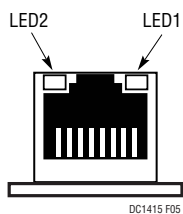

Figure 5. DC1415 LEDs
4. Verify LED2 is lit, indicating the PSE has successfully detected and powered the PD. LED1 will also be lit if the PSE performed 2-event classification. See Figure 5.
There are two LEDs on the front of J1 as shown in Figure 5. In a typical PD application a PHY chip would drive these LEDs to indicate the status of the Ethernet link or traffic activity; however, on the DC1415A board the LTC4265 drives the LEDs to indicate PoE status.